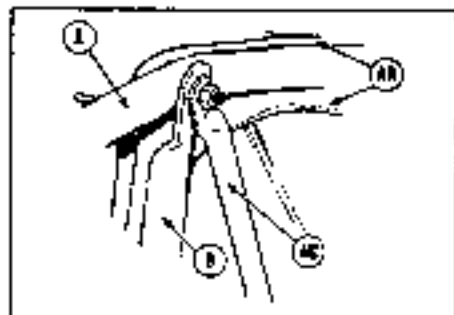
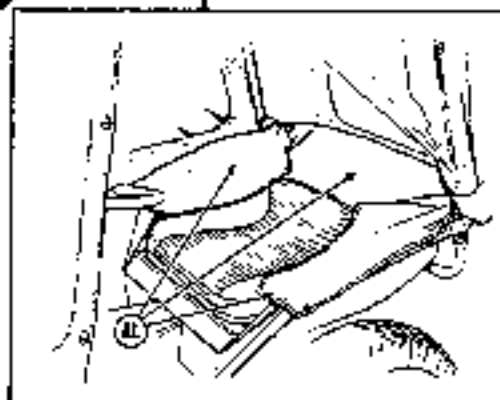

FIGURE 2
FIGURE 3
The generator assembly is then held in place at the rear of the tractor and the pivot rod, C, Fig. 2, is inserted through the rear tractor arms and through the tubular portion of the mounting bracket, Fig. 2. The pivot rod is then secured by spring clips at each end.
4. Thread member (C) into channel in canvas canopy (AA) (See Fig. 2) and bolt (C), (A), (D) and (E) together on each side as detailed in Fig. 2.
5. Now attach this canopy assembly to (C) on each side (Fig. 3), leaving the attaching bolt
8. Attach the upper end of rods (AC) to (A) at the front corners making sure that the upper corner of the front window assembly (AH) is fastened to the same point by means of the screw passing through the eyelet provided in the canvas (Fig. 2).
9. The top of the front window assembly is then snapped on the fasteners at the front of (A) and the sides are snapped to members (B).
10. The seat protector panel (AL) is then snapped to (F) and (AE). See Fig. 3.